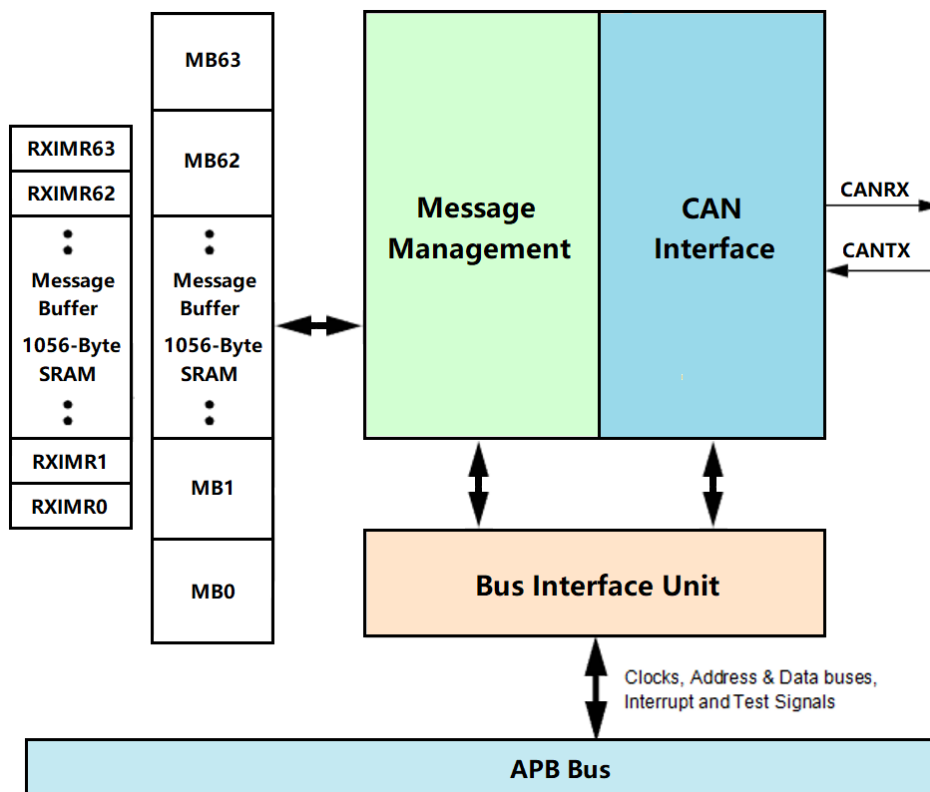

Figure 19-1: CANBus Block Diagram
LT7589's CANBus module is a communication controller implementing the CAN protocol based on the CAN 2.0B protocol specification. A general block diagram is shown in **Figure 19-1**, which describes the main sub-blocks implemented in the CANBus module, including two embedded memories, one for storing Message Buffers (MB) and another one for storing Rx Individual Mask Registers. The functions of the submodules are described in subsequent sections.